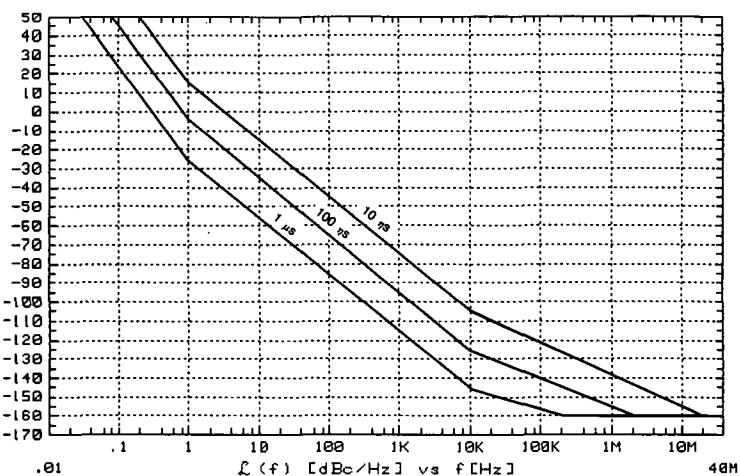

Figure 3-26. Discriminator Noise Floor as a Function of Delay Time.
1. Determine the delay necessary to provide a discriminator noise floor that is below the expected noise level of the DUT. Figure 3-26 shows the noise floor of the Discriminator for given delay times (τ). (The noise floor provided by 10 ns of delay is adequate for measuring the internal 350–500 MHz oscillator.)